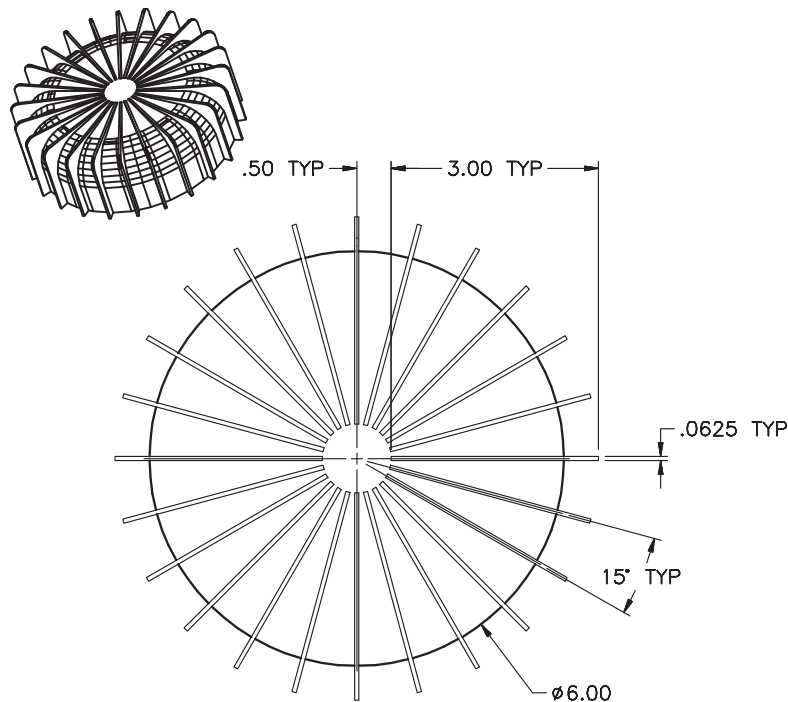

Fig. 17-23
12. Draw the top view of the power saw motor flywheel shown in Fig. 17-23. Use the **ARRAY** command to insert the 24 fins and arcs. You may find the **OFFSET** command useful in creating the first fin.